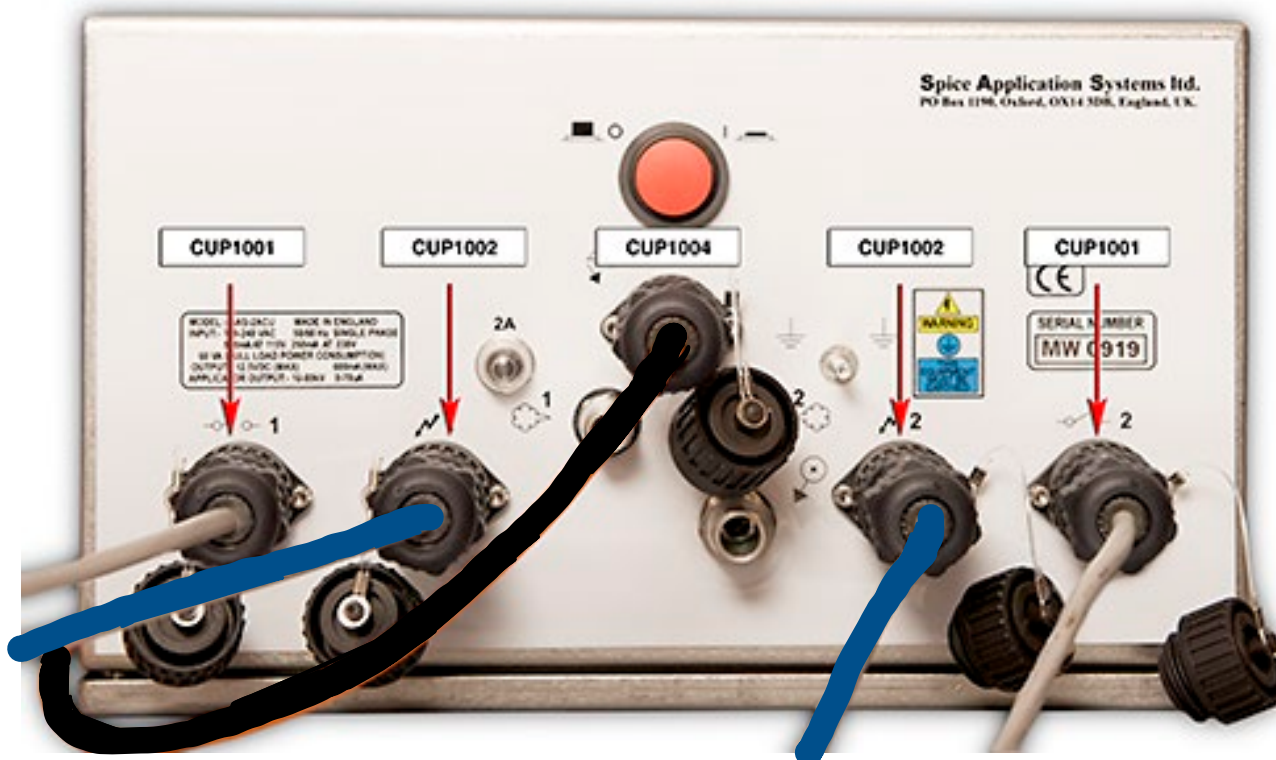
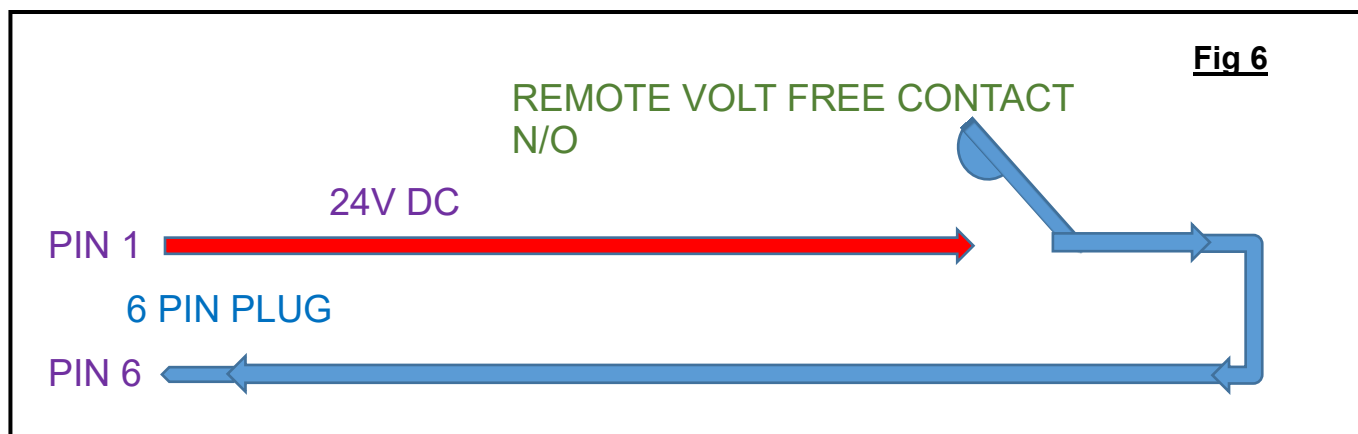

Fig 5
Fig 6
10. If the application requires the remote trigger to facilitate the unit to switch on and off with an existing production line, please refer to page 12 – Fig 6 on the manual. If not using, make sure the dust caps are fitted and locked into place on the underside of the SAS Controller. (see page 12 - Fig 5)
Within the SAS Control unit memory, you can select within each Menu number, to operate the Electrostatics from a remote volt-free signal (see page 12, Fig 6) This allows for each Channel on the unit to be independently switched On or Off from a remote source, providing the selected Menu number is pre-programmed for this function.